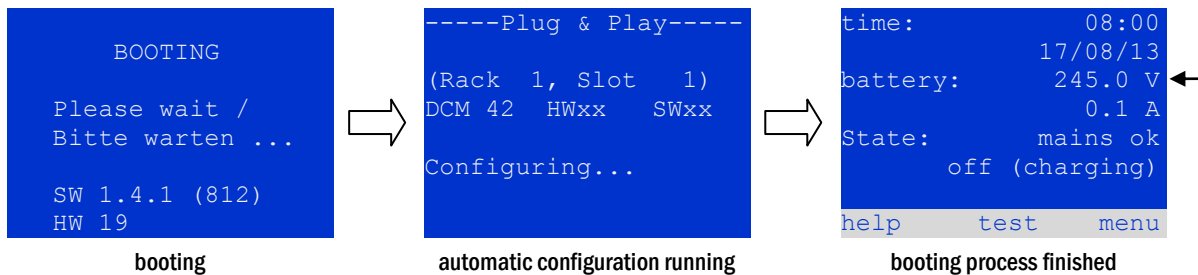

Figure 3: Booting process (left, centre) and status (right)
9. Checking the battery voltage. Check the battery voltage by means of the status information in the LC-display (12). It should be between 192V and 250V (fig. 3, right picture, arrow).
10. Checking the direct current modules (DCM). Check the LEDs of the DCM-modules (15) and the LDM-charger module (16). Steady green light or blinking of the LEDs indicates correct functioning. Red light/blinking indicates an error (e.g. insulation fault). In this case abort commissioning. For further information see the manual.
11. Set operation mode switch to "ready to operate". Turn the operation mode switch (13) to "ready to operate" (position "1"). This activates the electric circuits.